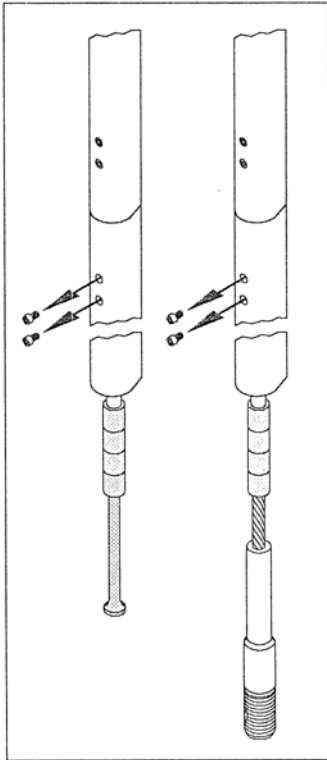
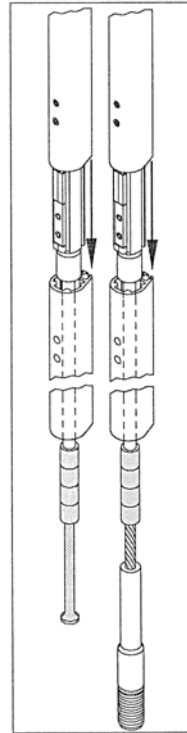

Bild 1 / fig. 1
Bild 2 / fig. 2
From the bottom end of the stay, slide on and feed the top profile along to the top end of the stay. When in place, assemble a pair of split join sleeves over the stay at the spacer tube, marked red, directly under the top section (fig. 1). Insert a stainless steel plate (1) into the recess on the top half of the join sleeve and make sure that the holes of the plate and the join sleeve are on the same side. Push the join sleeve half of its length into the upper foil section (2). (fig. 2).
From the bottom end of the stay, slide on and feed the top section along to the top end of the stay. (Fig. 1)
a.) measurement C < 2150mm: Place two big split bushes and two long spacer tubes on the stay. Secure the bushes with tape and push them together into the top section. (Fig. 2)